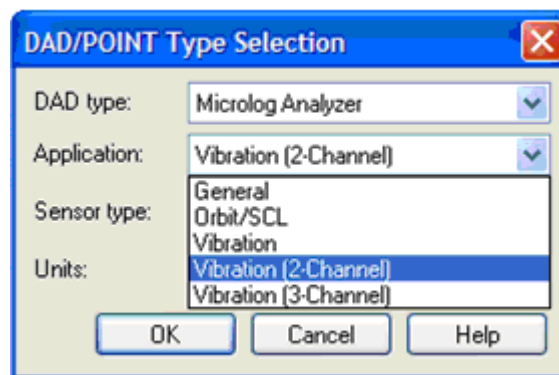

Figure 1. DAD/POINT Type Selection
1. First, select **Vibration (2-Channel)** as the Application. [Figure 1]